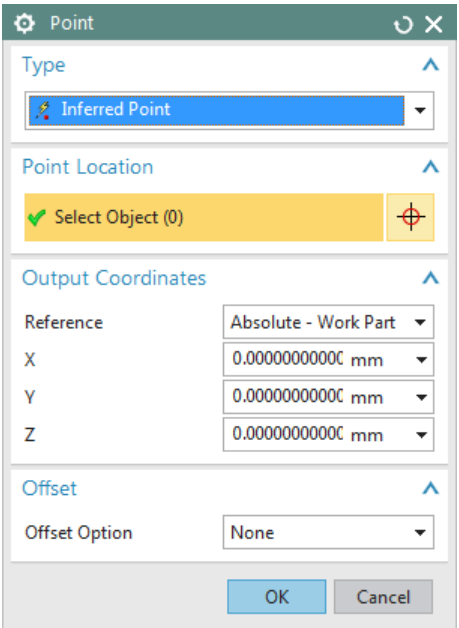

Figure 16-73 The *Point* dialog box
- 11. Choose the **Point Dialog** button; the **Point** dialog box is displayed, refer to Figure 16-73.